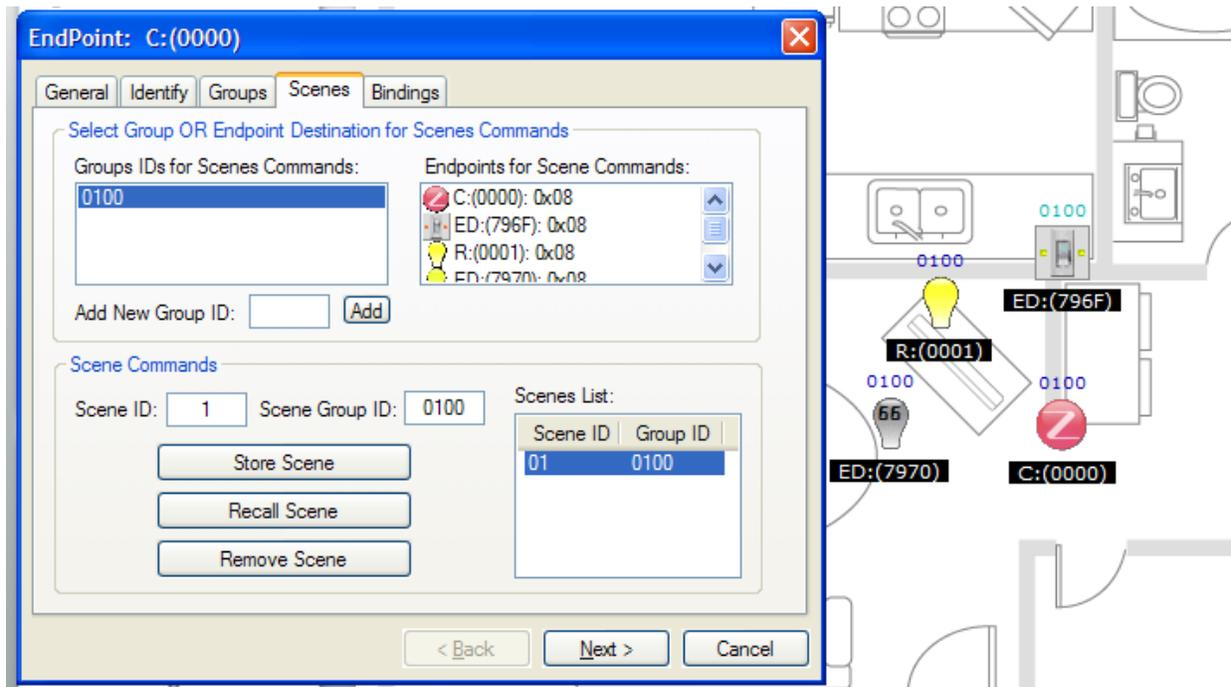

Figure 4-27. Modifying Light States Using Group “Toggle”
9. Press SW1 on the On/Off Switch board. This makes a group “Toggle” command to the lights. The On/Off Light turns on and the Dimmable Light turns off as shown in Figure 4-27.